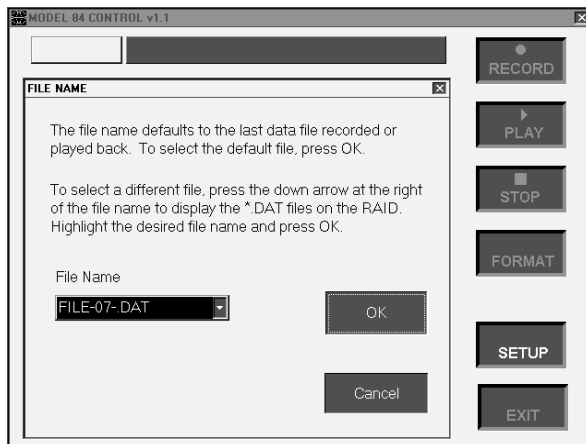

Figure 2-10 FILE NAME Screen
1. The FILE NAME Screen shown in Figure 2-10 opens.